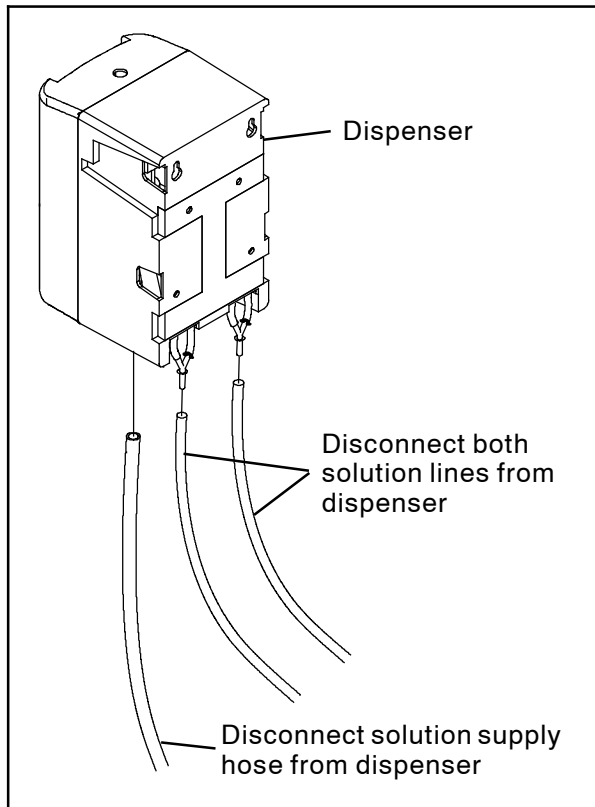

FIG. 36
2. Disconnect the solution supply hose and both solution lines from the dispenser. (Fig. 36)